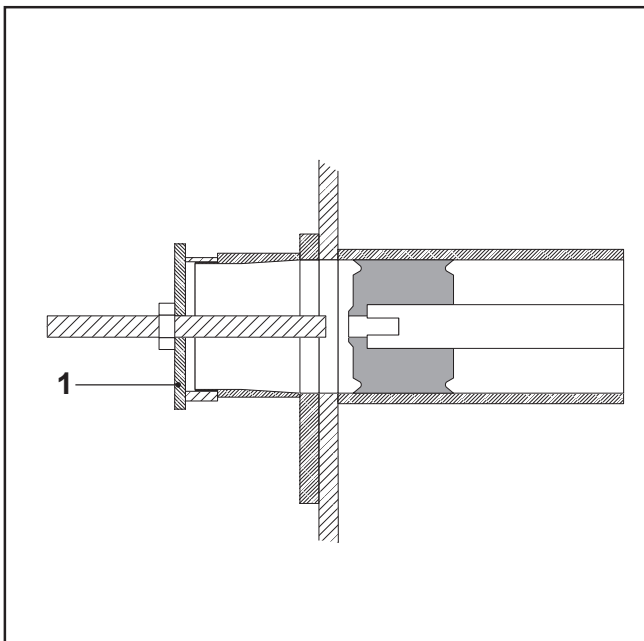

FIG.65
- Mount the flange for removing the piston (FIG. 65-REF. 1).